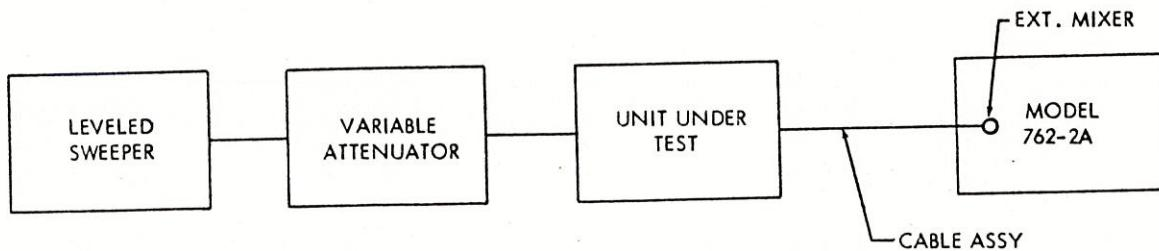

Figure 6-5. Waveguide Mixers Check
- (1) Connect equipment as shown in Figure 6-5. Use a 110567 Cable Assy, Ext. Mixer, to connect the mixer to the analyzer EXT MXR. Be certain the cable end marked MIXER is connected to the mixer.
- (2) Set the sweep selector control in the sweep generator to CW. (Use appropriate procedure to ensure that Sweeper is leveled.) Calibrate Output level of Sweeper for 0 dBm.